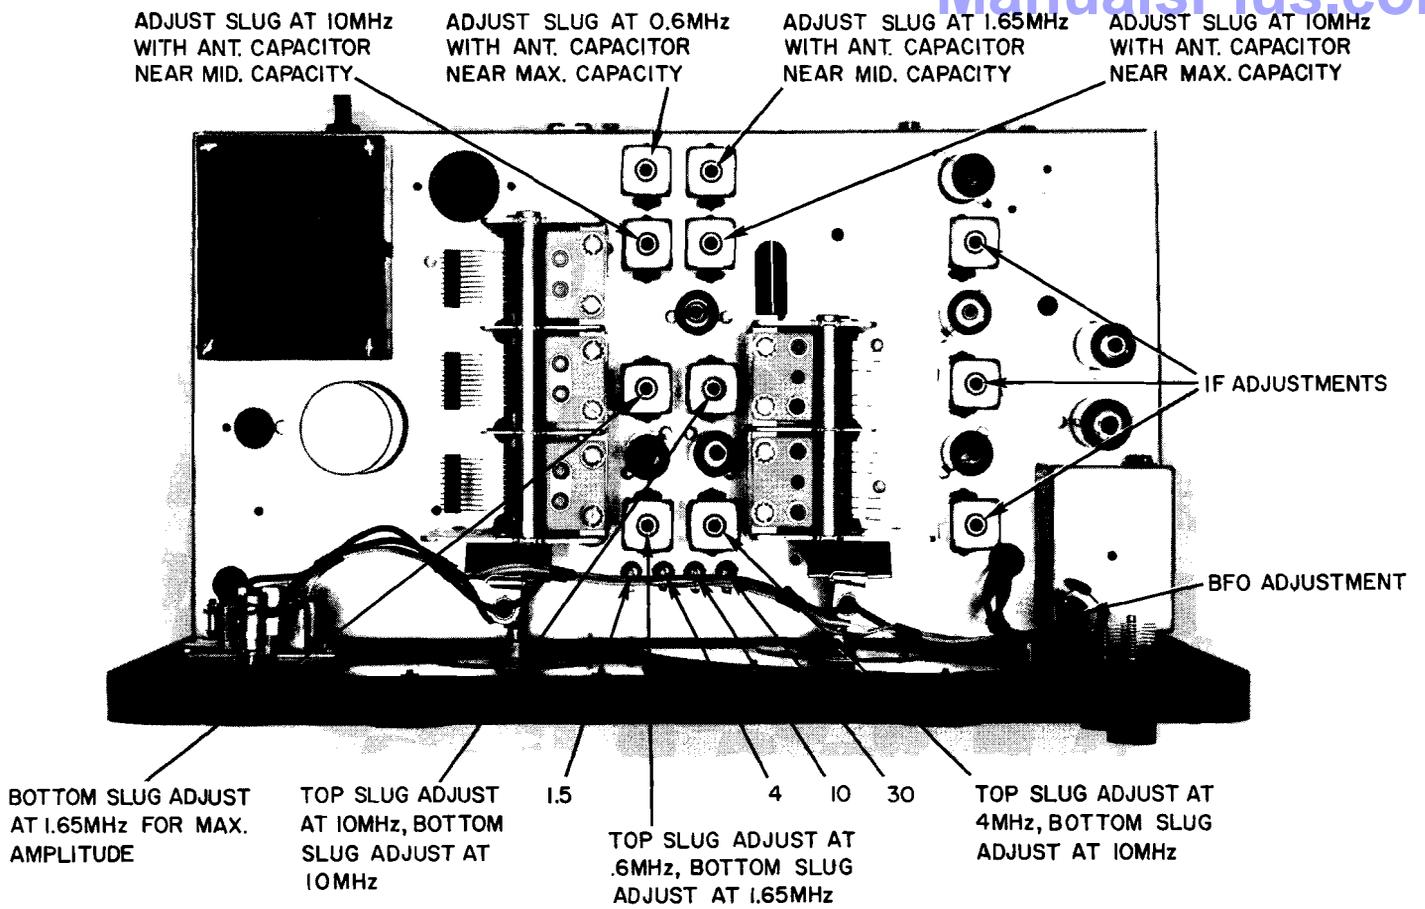

FIGURE 4-2. HQ 200 TOP VIEW.
D. During alignment, adjust the generator output to prevent over-loading. Adjust each of the three IF transformers for maximum meter reading. Topside adjustments (Figure 4-1) are secondaries or grid circuits; bottom of chassis adjustments (Figure 4-2) are primaries or plate circuits. The reading on the voltmeter should be kept below -3.0 volts.